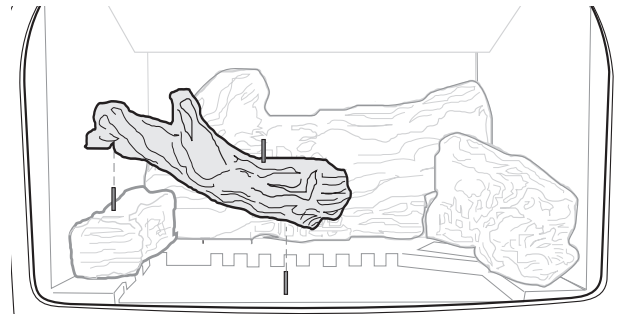

Figure 14. Install Middle Log.
4. Install Middle Log on the peg as in fig. 14.